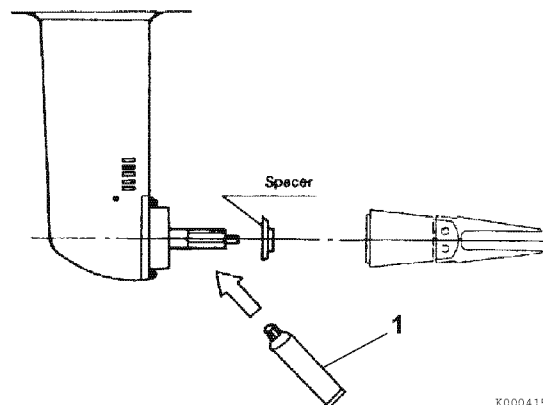

Figure 24
17. Apply grease (1, Figure 24) to the propeller shaft.